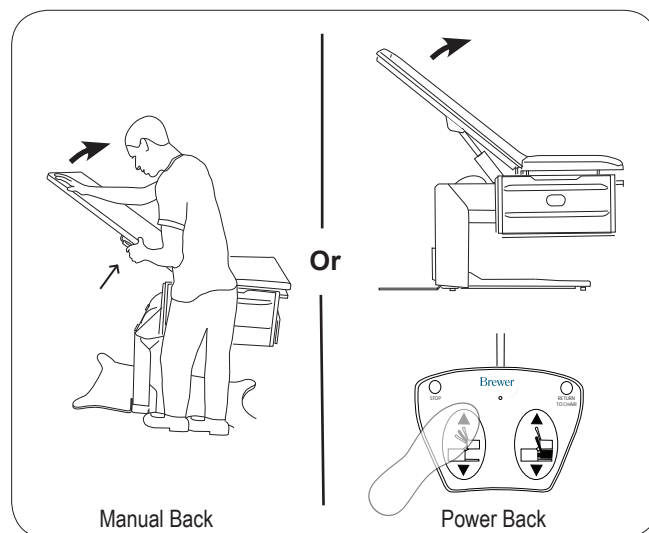

Figure 8. Raise Backrest
11. Raise the backrest to its full up position (Figure 8).